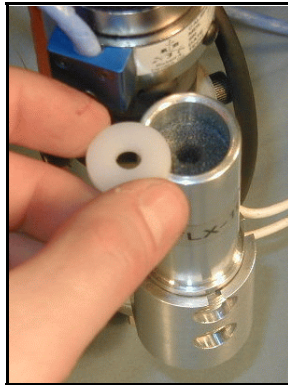

Figure 3.17 - Primary Load Washer
16. Position the Primary Load Washer (T2LLM312) on top of the Soft Foam Compression Element, as shown in **Figure 3.17**.